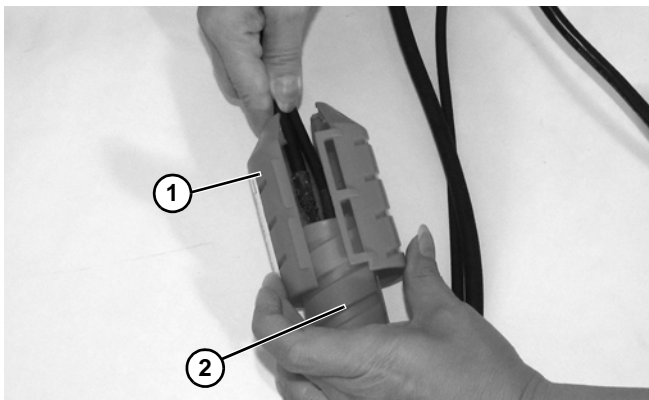

Figure 31
2. Remove outer cord cover (Figure 31, item 1) from inner cord cover (Figure 31, item 2).